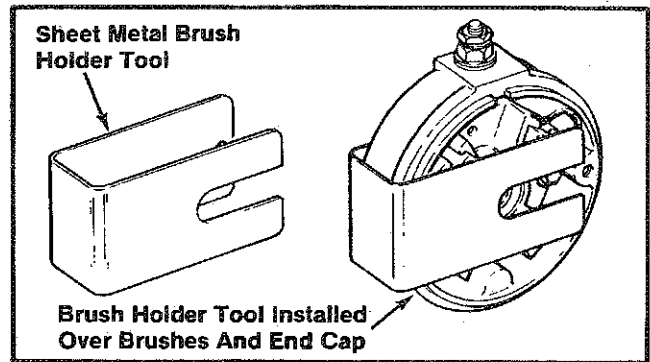

Figure 8-18. Brush Holder Tool.
**NOTE:** Use a brush holder tool to keep the brushes in the pockets. A brush holder tool can easily be made from thin sheet metal. Refer to Figure 8-18.
3. Install the brush holder tool to keep the brushes in the pockets of commutator end cap. Refer to Figure 8-18.